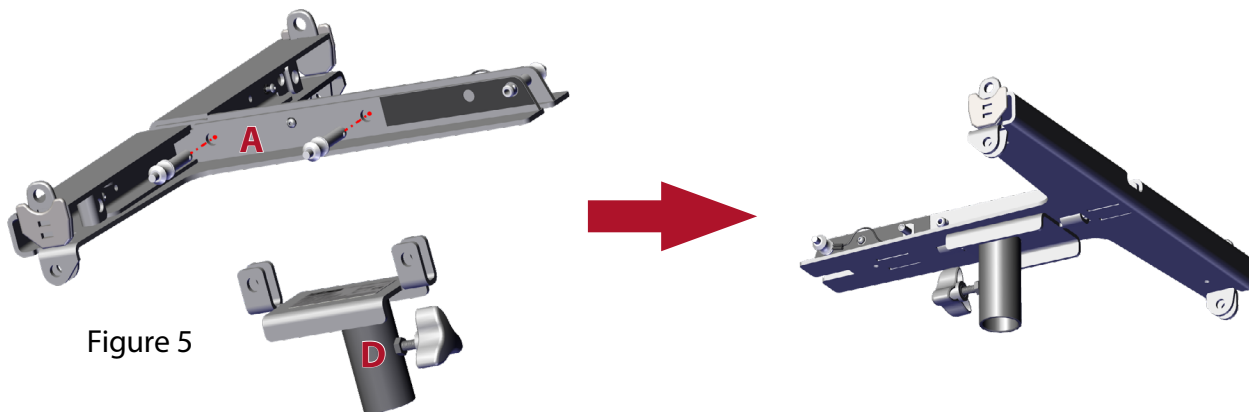

Figure 5
- Insert Pole Mount Adapter (D) into inverted Flybar Frame (A) and secure by pinning both locations using pins on the frame (Figure 5)